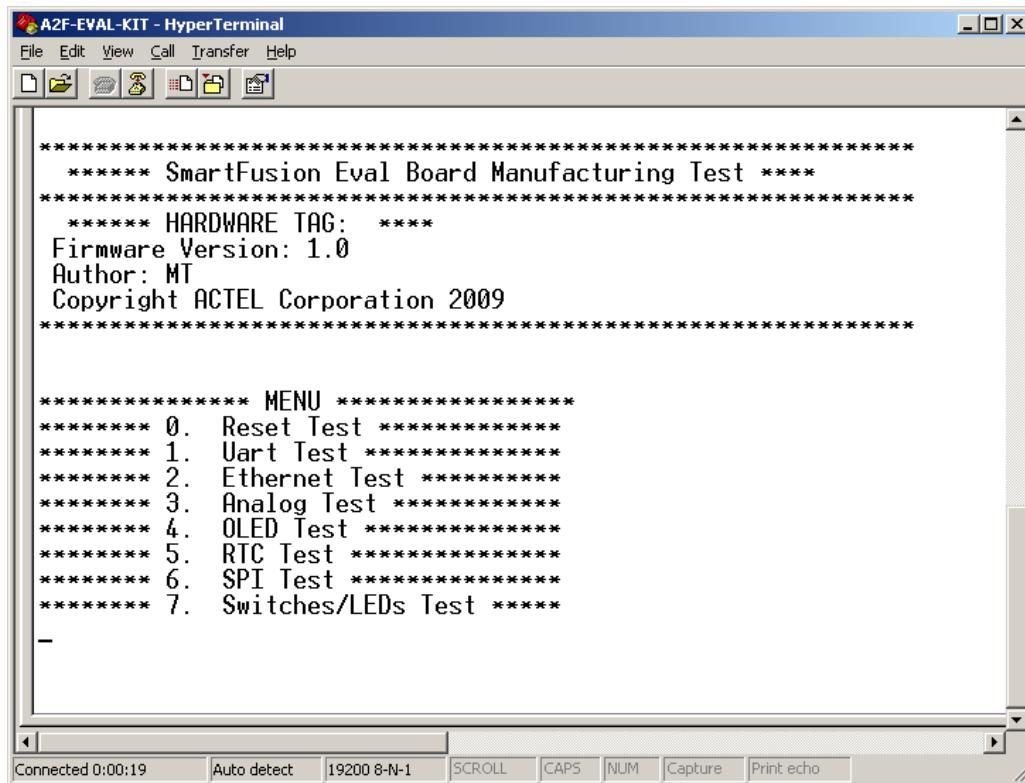

Figure 7-11 • Manufacturing Test Menu
1. The menu shown in Figure 7-11 is displayed on the terminal.